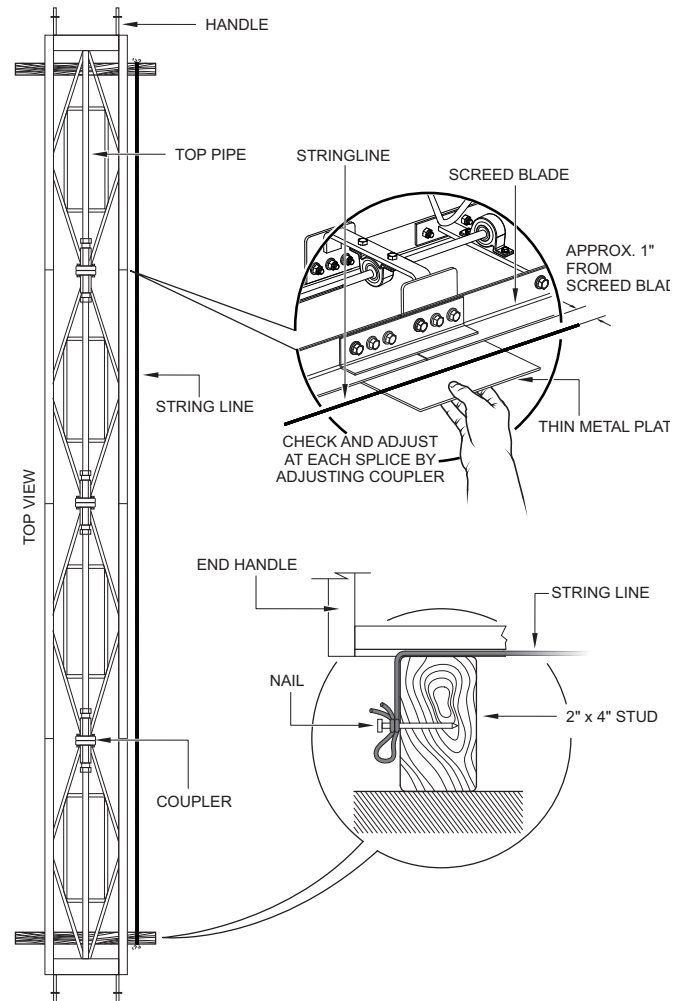

Figure 19. Blade Alignment
1. Place the screed ends on a flat wooden support. Reference Figure 19.